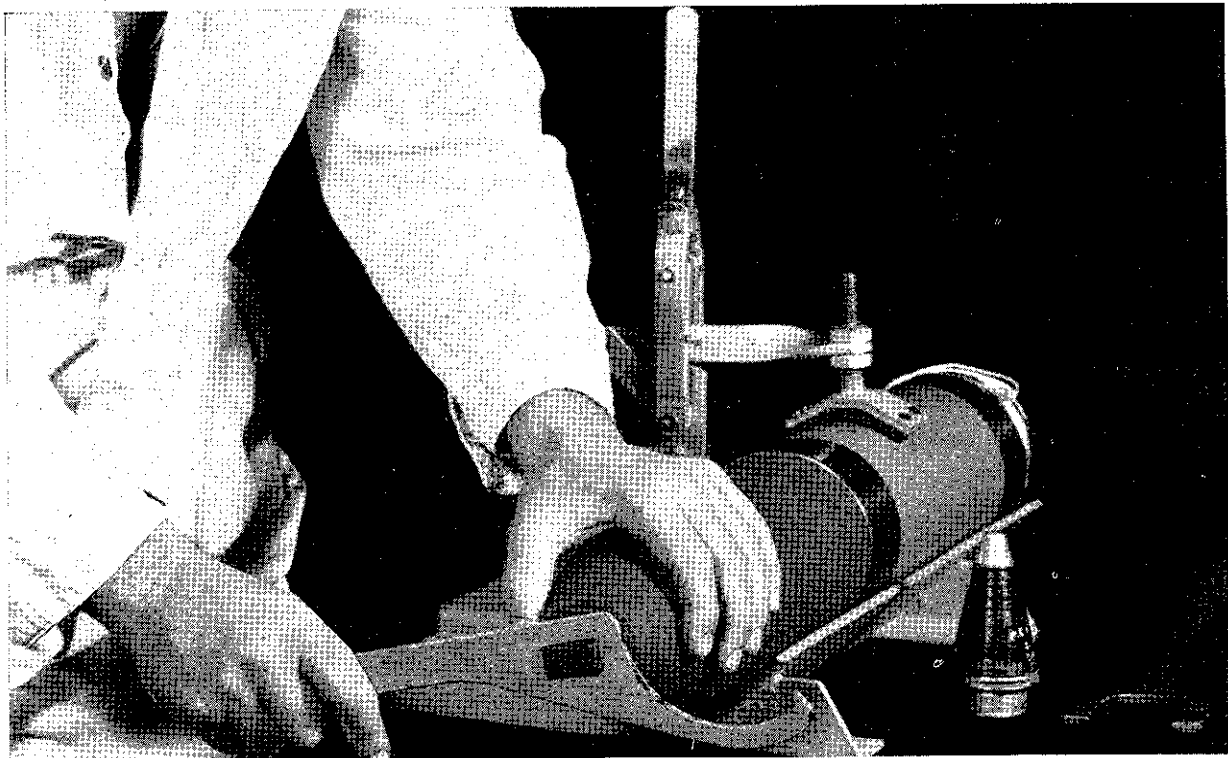

Figure 18.—Removal of Nose Shipping Plug With Utility Spanner Wrench.
9. On rounds mounting a nose fuze remove the nose shipping plug of the head with the spanner wrench in the manner illustrated in figure 18.